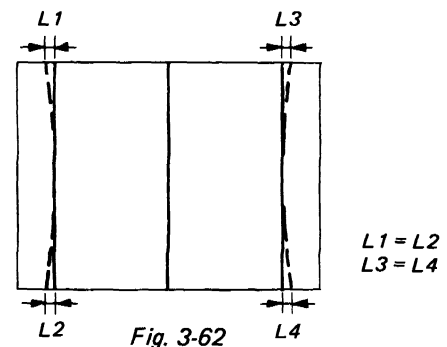

Fig. 3-62
- (11) When the red vertical center line slants, adjust RV5508 (H SKEW (R)).
(12) Adjust RV5512 (H SUB SKEW (R)) so that "L1" ("L3") is equal to "L2" ("L4") as shown in Fig. 3-62.